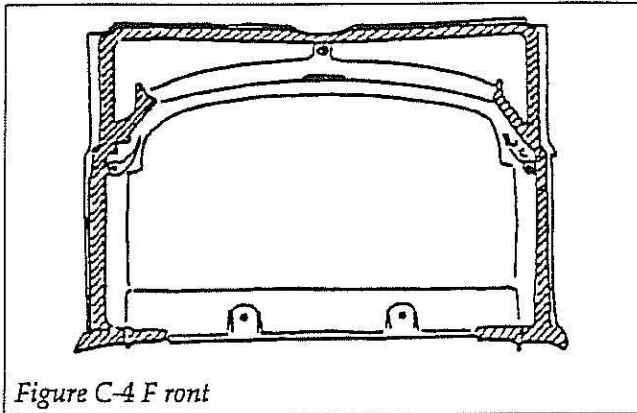

Figure C-4 F front
8. Install threaded stems in the tapped holes in the left and right back edges of the stove front. Cement all mating surfaces on the stove front as shown in figure C-4. Put the air manifold in position on the inside of the stove front and secure with one hex bolt, 1/4-20 x 2" long.